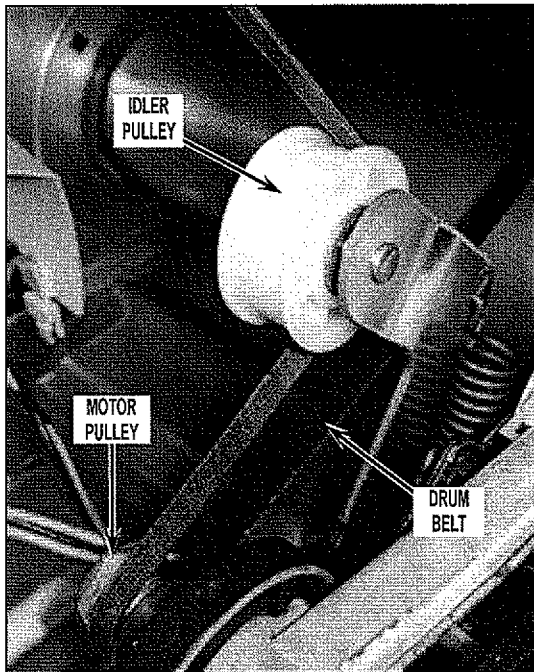

FIGURE 16
18. Remove drum from dryer by reaching into dryer just under the drum to back side of drive motor. Grasp idler pulley and lift up to relieve tension from belt and remove belt from motor pulley and idler pulley. Refer to *Figure 16* for belt removal and reassembly.